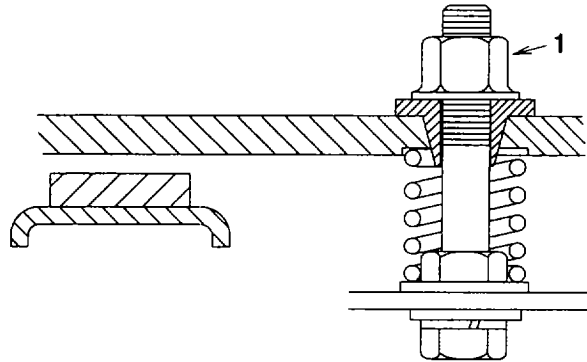

Figure 4-41. Compressor Mount
- b. Tighten four compressor mount locknuts (1, fig. 4-41) just to the point where the compressor bottoms against the rubber pads underneath it.